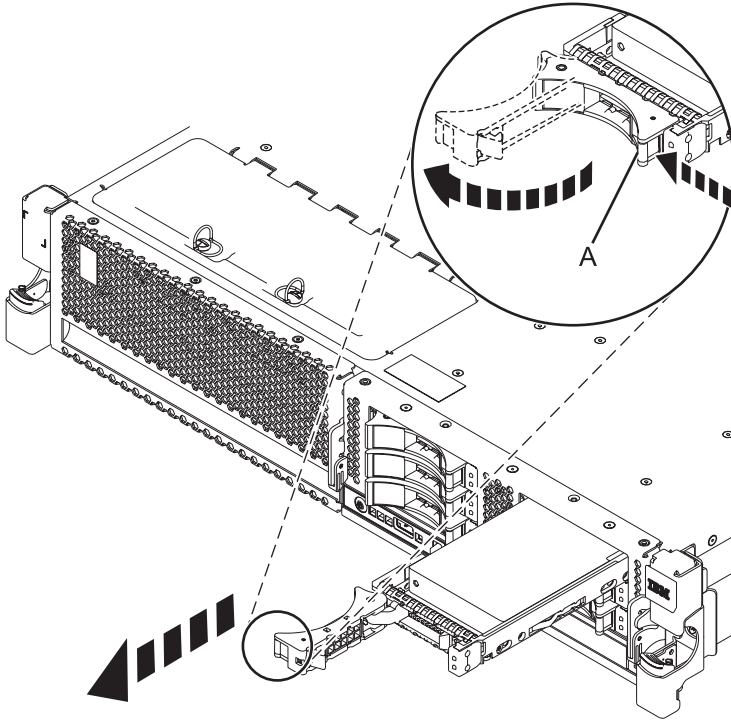

Figure 33. Removing a disk drive from the system
1. On the system, unlock the drive handle by squeezing it and pulling it out toward you, as shown in Figure 33 on page 50.